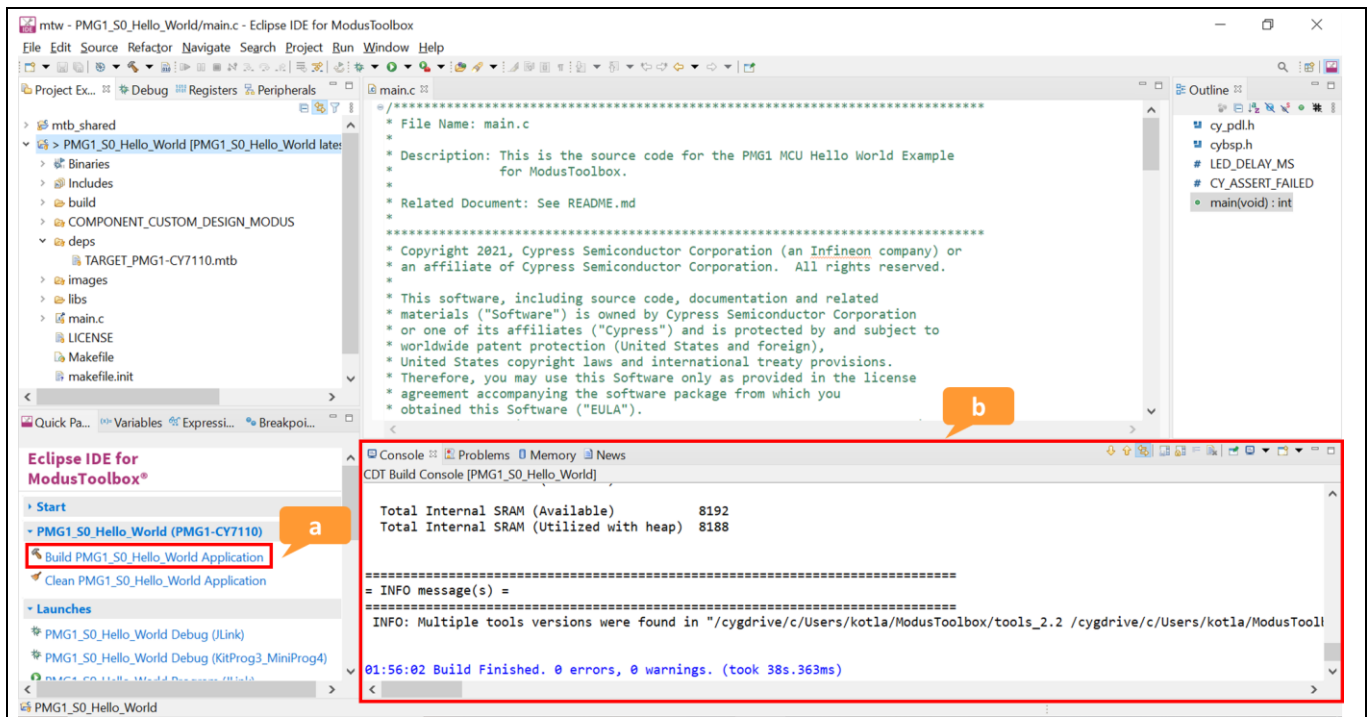

Figure 15 Build the application
- b) The **Console** view lists the results of the build operation, as Figure 15 shows.